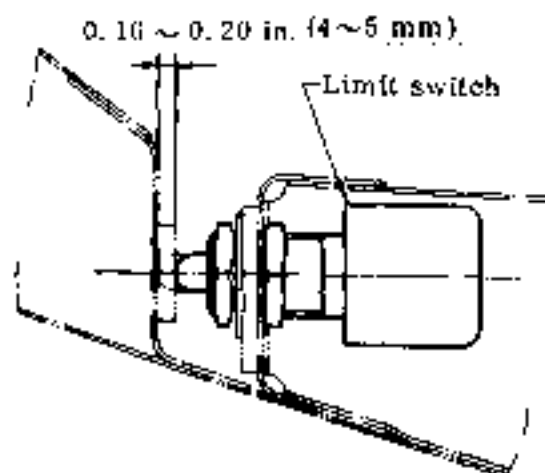

Fig. 4-36 Adjustment of limit switch
- (2) In accordance with the following steps, ascertain that left door opens first.
- (3) Check for actuator shaft length. Close the forward doors little by little without inertia. When the door pad strikes the close limit switch plunger, the length of the actuator shaft shall be 12.32 to 12.44 in. (313 to 316 mm) (See Fig 4-36). When the length is not within this limit, adjust per Para. (1) (c) above after changing the rod length in Fig 4-39.